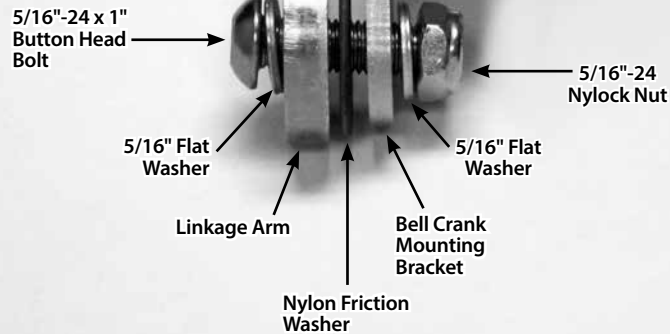
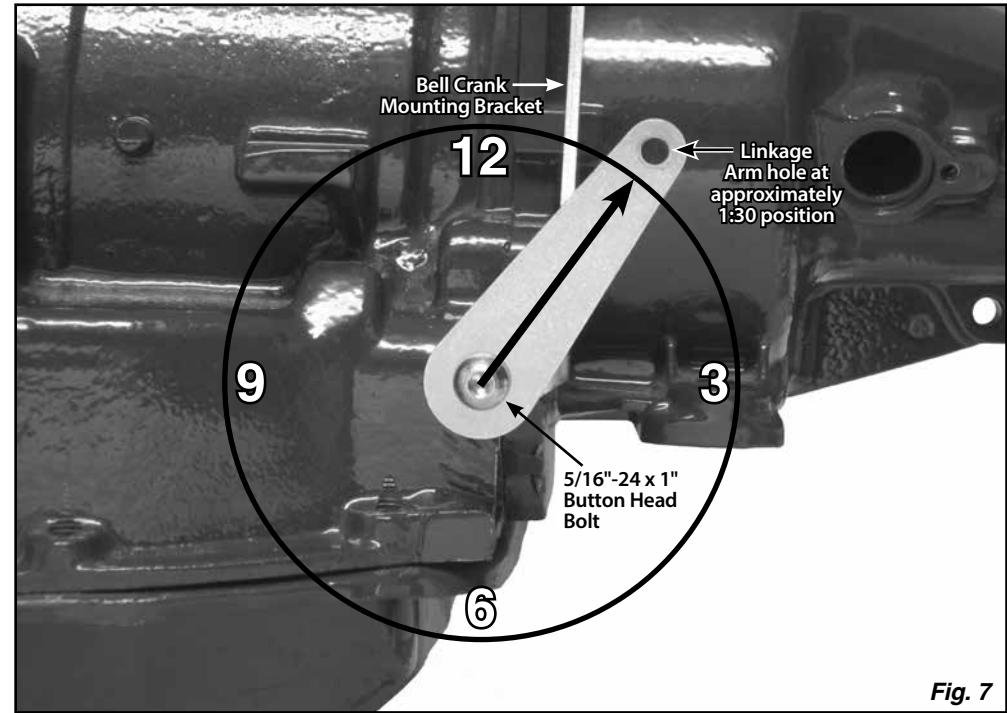

Fig. 6
Fig. 7
Step 6: Attach the linkage arm and nylon friction washer to the bell crank mounting bracket as shown in Fig. 6, using the 5/16"-24 x 1" button head bolt, flat washers, and nylock nut. Make sure the nylon friction washer is in between the linkage arm and the mounting bracket. Position the linkage arm at approximately the same angle as the trans arm on the selector shaft (the 1:30 position), and tighten the nylock nut. Fig. 6 and Fig. 7